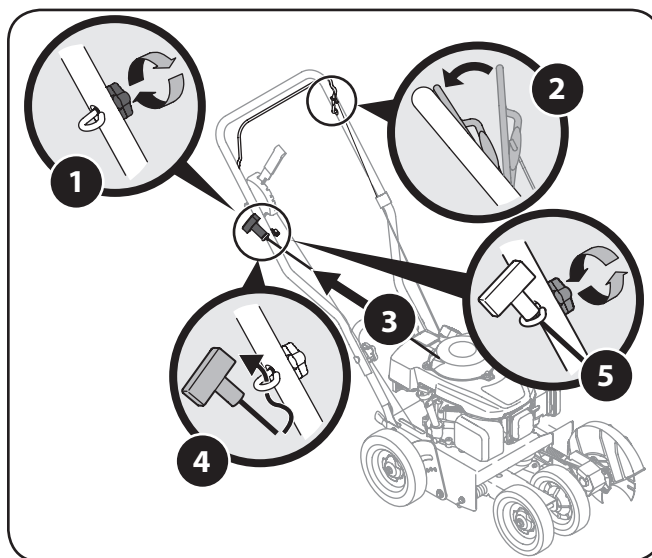

Figure 3-5
1. Locate the rope guide and wing knob found in the manual bag. Using the wing knob, secure but do not tighten the rope guide to the right side of the upper handle as shown in Figure 3-5.
NOTE: The starter rope will not pull out of the engine unless the blade control (refer to Figure 3-5) is depressed against the upper handle.